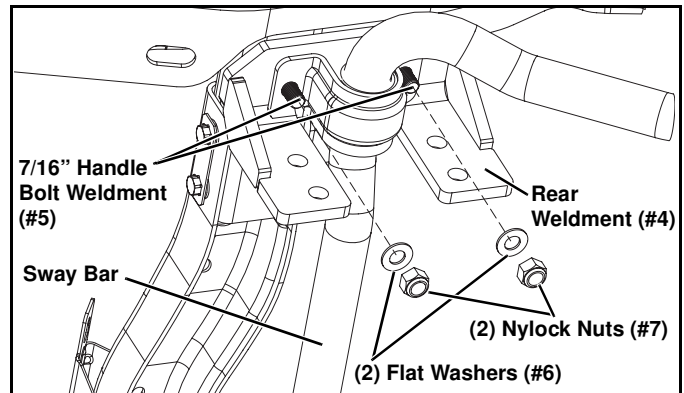

Figure 5
8. Align the top holes of the Rear Weldments (#4) with the holes in both sway bar brackets. (See Figure 5 for orientation.) Align the Rear Weldments (#4) and sway bar brackets with bolt threads from the (4) 7/16" Handle Bolt Weldments (#5) sticking out of the truck frame. At the same time, on both sides, place the combination of Rear Weldments (#4) and sway bar bracket up against the truck frame rails by sliding over the (4) Handle Bolt Weldments.